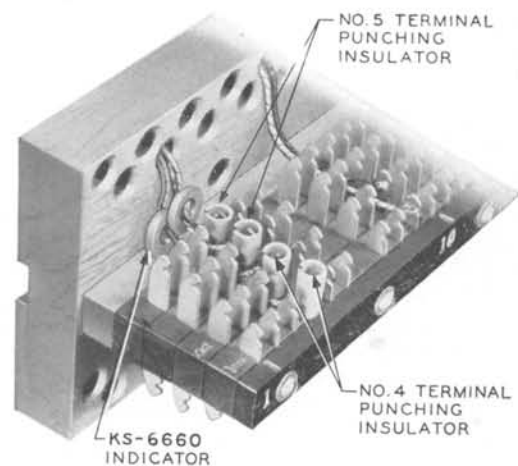

FIG. 11—USE OF NO. 4 AND NO. 5 TERMINAL-PUNCHING INSULATORS AND KS-6660 INDICATOR
9.03 A KS-6660 Indicator is a bright red split ring designed to clip over terminal cross-connecting wires (shown in Fig. 11) to identify special circuits.
9.04 No. 4 and No. 5 Terminal-punching Insulators are used on soldered-type terminal punchings as shown in Fig. 11. The No. 4 insulator is used on short terminal punchings, and the No. 5 insulator is used on the longer terminal punchings.